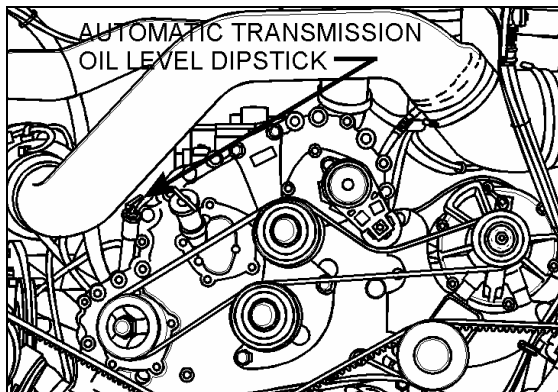

FIGURE 6: OIL LEVEL DIPSTICK (AUTO. TRANS.) 07033
To gain access to the dipstick, open the engine compartment rear doors; dipstick is located on the radiator side of the engine (Fig. 6).
2. Run the engine for at least one minute. Shift to Drive (D) and operate the engine for 30 seconds at 1000-1500 rpm; then shift to Reverse (R) to clear the hydraulic system of air. Finally shift to Neutral (N) and allow the engine to idle for two minutes (500 - 800 rpm).
3. While the engine is running, remove the dipstick from the tube and wipe it clean (Figs. 6 & 7).